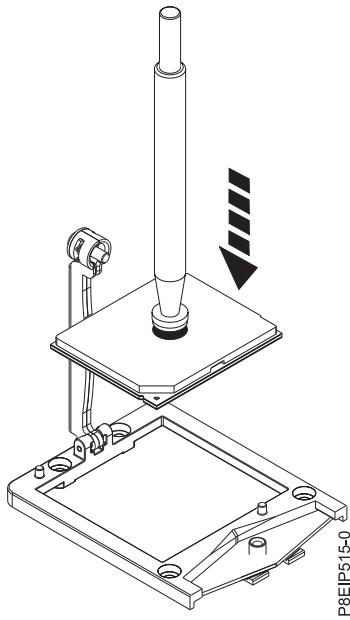

Figure 39. Lowering the processor into the socket
- a. Lower the pen and system processor module onto the socket as shown in Figure 39 on page 37. Align the beveled corner of the processor with the beveled corner on the socket. Use care to lower the tool evenly without tilting the processor.